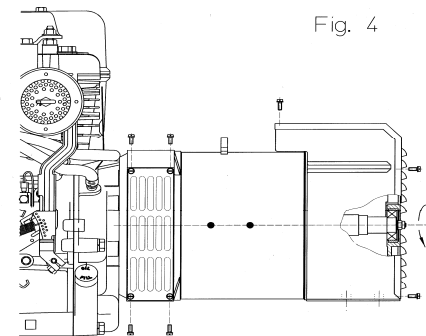

Fig. 4
-) block the central stay rod, applying a tightening torque of  $21 \pm 7\%$  Nm if you are using stay rods of M8, while if you are using M14 stay rods, apply a tightening torque of  $120 \pm 7\%$  Nm; reassemble the lateral protective nets and the rear closing grid by applying a tightening torque of  $3,5 \pm 7\%$  Nm to the M5 screws (figure 4).